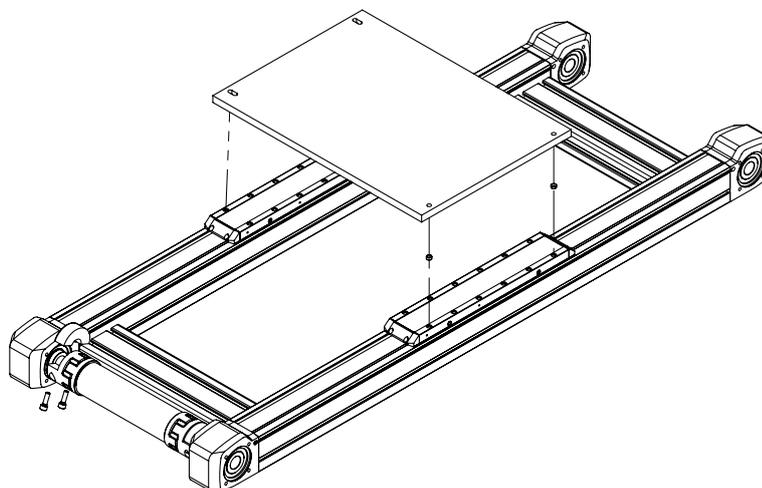

Fig. 6.37 Mounting the adapter plate above both double axis carriages
- ▶ Mount the adapter plate on one of the carriages as described in Fig. 6.37.
- ▶ Mount the adapter plate on the second carriage as described in Fig. 6.37.